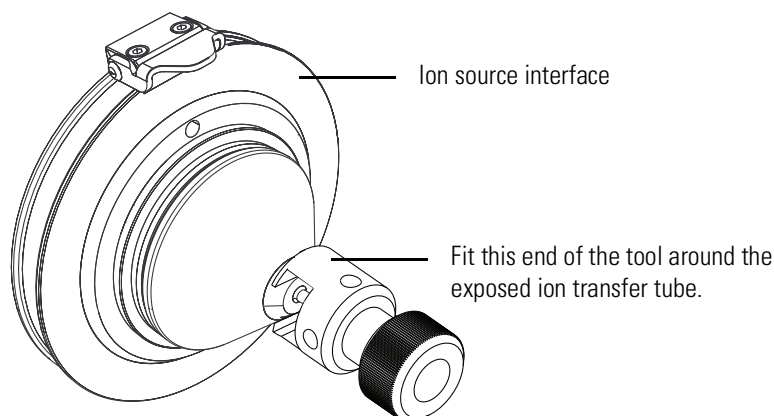

Figure 8-14. Removing the ion transfer tube (Orbitrap Exploris 120, Orbitrap Exploris 240, Orbitrap Exploris MX MS)
- (Orbitrap Exploris 120, Orbitrap Exploris 240, Orbitrap Exploris MX MS) Rotate the tool (Figure 8-14) counterclockwise. When the tube is free of the spray cone, use the hook (flat edges) on the tool to pull it out of the ion source interface.